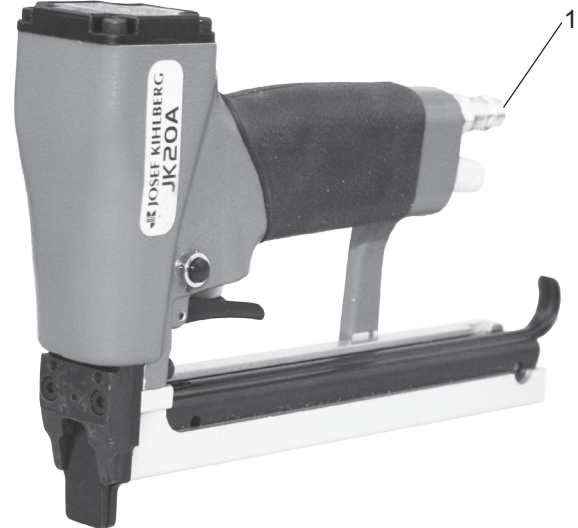

Fig. 2
1. Take the stapler out of the box. Check that the nipple is the correct brand and fits your air system. Put sealing compound on the thread. (Fig. 2/1).